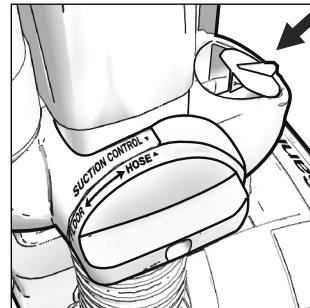

Figure 9
- The valve should be in a horizontal position with the indicator pointing to the hose setting. (See Figure 9)